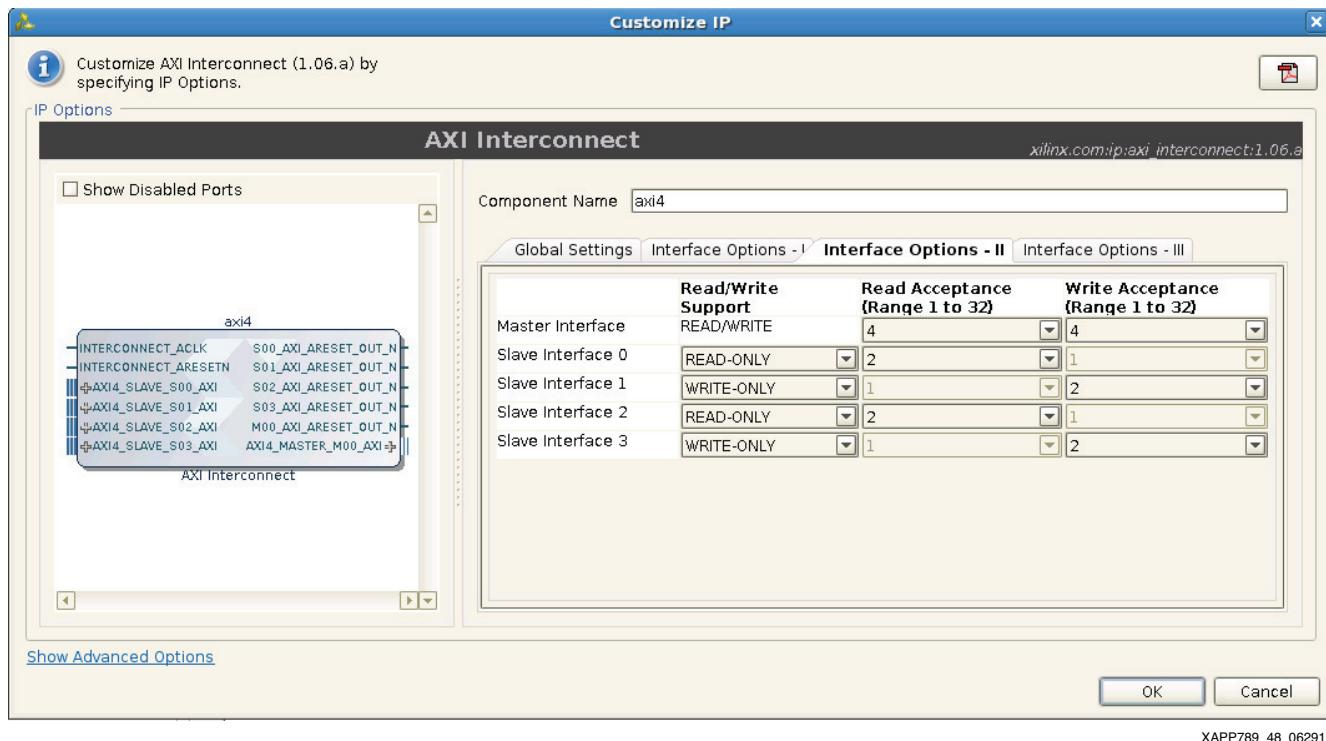

Figure 48: AXI Interconnect Channel Data Settings
37. Click the **Interface Options – II** tab of the AXI Interconnect IP Configuration and make the following settings (Figure 48):